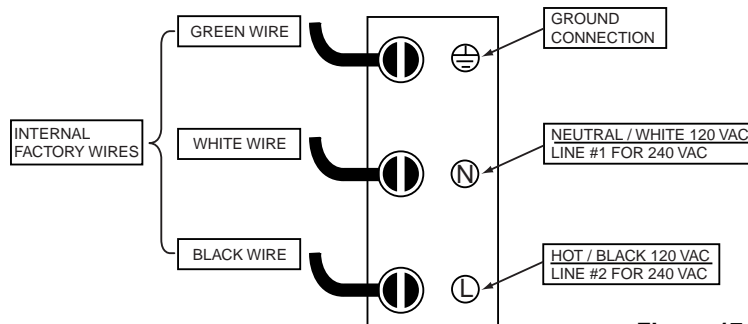

Figure 17.
- When connecting the power supply to the “Line Terminal Block” inside the junction box, follow the polarity as shown below. Connecting to 120 VAC, make sure that you connect the wire to the terminal (L), the neutral wire is connected to the neutral terminal (N) and the ground is connected to the ground terminal (GND); see below, **Figure 17**.